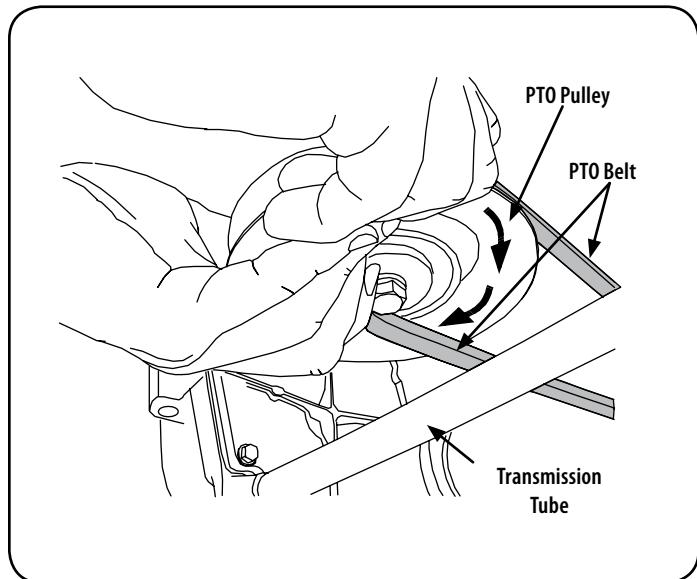

Figure 26
- While still holding the belt downward, continue turning the PTO pulley until the belt is rolled off the pulley. Refer to Figure 26.
- Pull the right side of the belt rearward and place the narrow V side of the belt into the PTO pulley. See Figure 26.
- While holding the belt and pulley together, rotate the pulley to the left (See Figure 26). Continue holding and rotating the pulley and belt until the belt is fully rolled into the PTO pulley.